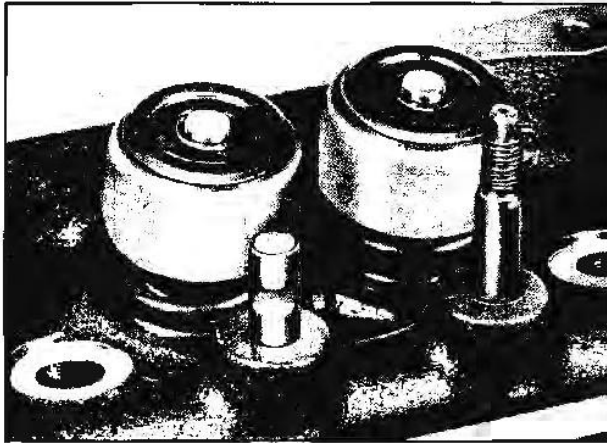

Fig. 6-105 Slots Filed in Rocker Arm Stud
2. With rocker arm removed, file two slots $3/32$ to $1/8$ " deep on opposite sides of rocker arm stud (Fig. 6-105). Top of slots should be $1/4$ " to $3/8$ " below thread travel.
7. Remove plugs (Fig. 6-105) from ends of cylinder head oil gallery and thoroughly clean out metal deposits and foreign matter from oil gallery (head must be right side up so foreign material will not lodge in or around studs).